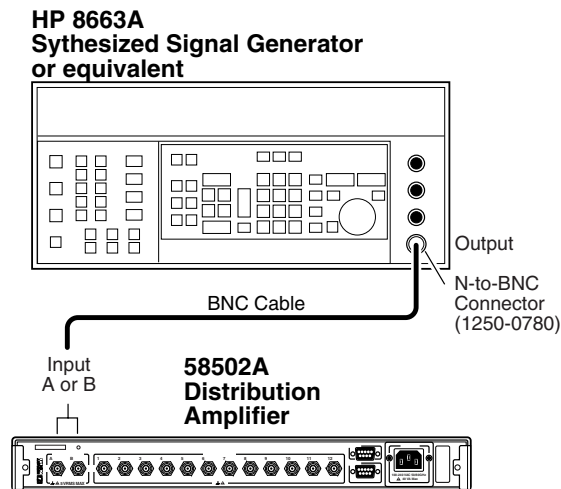

Figure 2-2. Alarm/Status Output Verification Setup
- 1 Connect the equipment as shown in Figure 2-2, using output **12** as the test output. (Note that any one of the outputs can be used for this alarm verification.)